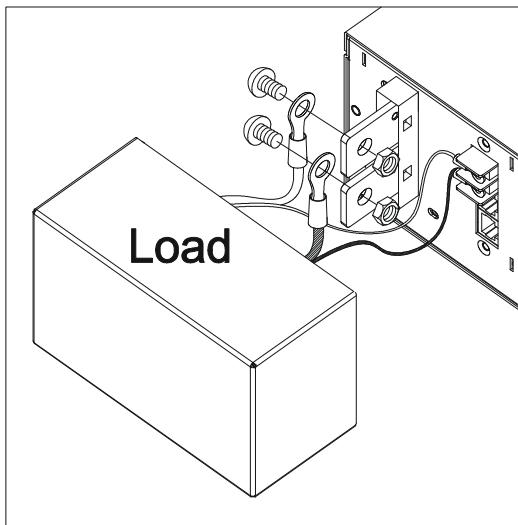

Figure 2-12
2. Figure 2-12 shows the correct connection. Use two wires to connect the positive/negative connectors of the load to the remote sensing connector on the rear panel. The connecting wire diameter must be larger than 30AWG and its withstand voltage should be within the specification.